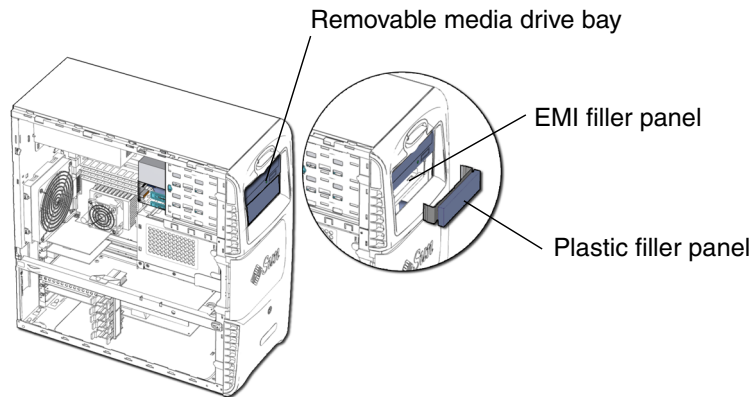

FIGURE 12-11 Removable Media Drive Bay and EMI Filler Panel
8. If you are not replacing the hard drive you removed, close the chassis and install a DVD-ROM drive EMI filler panel to protect the workstation (FIGURE 12-11).
2. Locate the removable media drive bay (FIGURE 12-11).